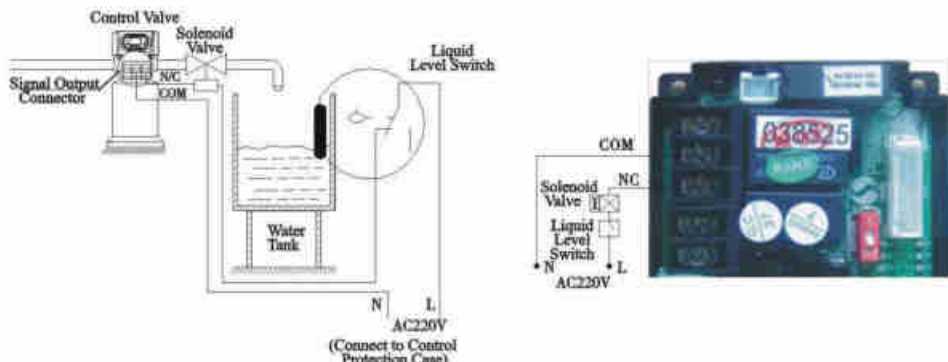

Figure3-1 Wring of Solenoid Valve on Outlet
① Solenoid valve on outlet controls water level in brine tank. Instruction: If system strictly require no hard water flow from outlet in regeneration cycle( mainly for no hard water flow out when valve is switching or valve in backwash or brine drawing positions), a solenoid valve could be installed on outlet, the wiring refer to Figure 3-1.